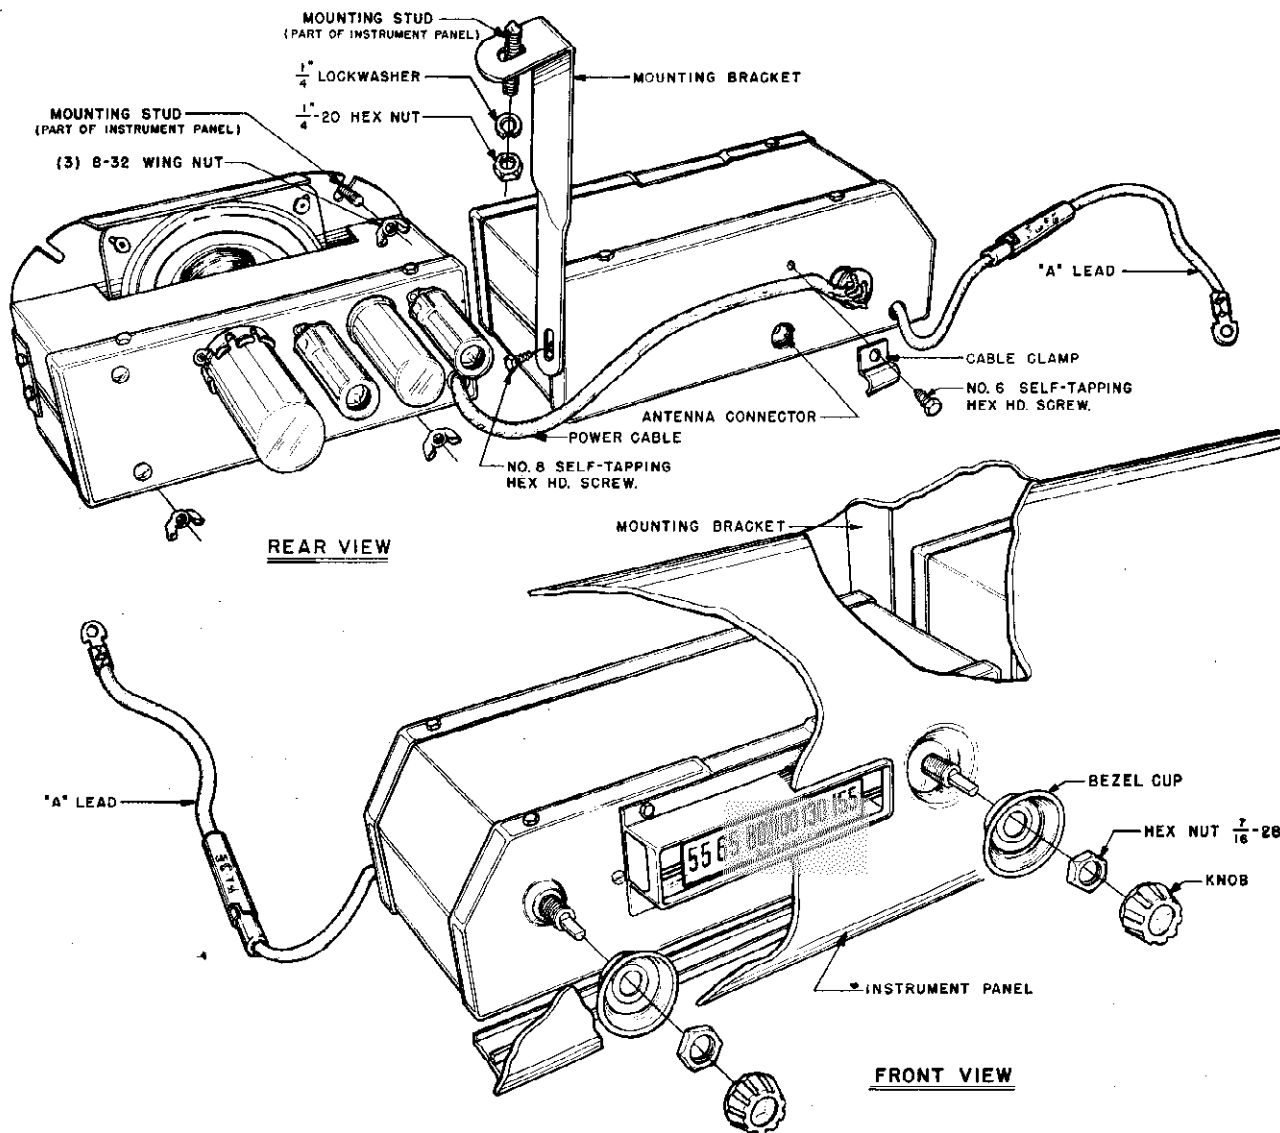

Fig. 2
9. Secure mounting bracket to side of tuning unit with hex head No. 8 self tapping screw, as shown in Fig. 2
10. Place speaker and power pack unit over three threaded stud bolts behind the instrument panel. (Position power pack unit so that power cable is located near the tuning unit.) See Fig. 2.
(See detail assembly drawing FIG. 2)